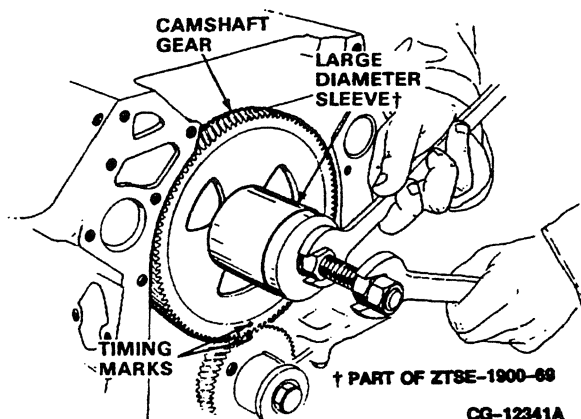

Figure 4.20. Cam Gear Installation and Timing Mark Alignment
4. Install camshaft gear over woodruff key, against fuel pump cam lobe on camshaft using ZTSE-1900-69 with large diameter sleeve and thrust bearing as shown in Figure 4.20.
**NOTE:** Assemble with timing marks on the front side of the gear. Align timing marks with crankshaft gear marks. Refer to Figure 4.20.